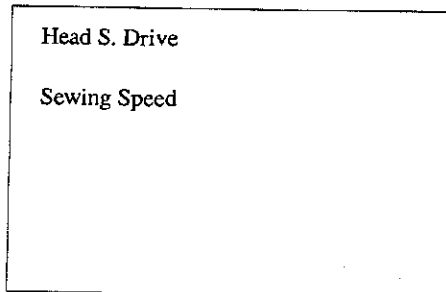

Fig. 2
- 2) Press the **Confirm** key to make the machine enter the run state. (Fig. 2)
- 3) Press the **Sewing speed** key. Then specify data as shown in Fig. 3. Press the **Enter** key so that the indication shown in Fig. 2 appear on the display.